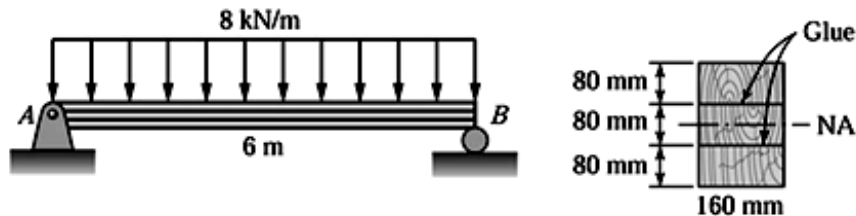

Figure: 2
7. The simply supported wood beam in figure 2 is fabricated by gluing together three 160-mm by 80-mm planks as shown. Calculate the maximum shear stress at the glue position and at the neutral axis. [10]